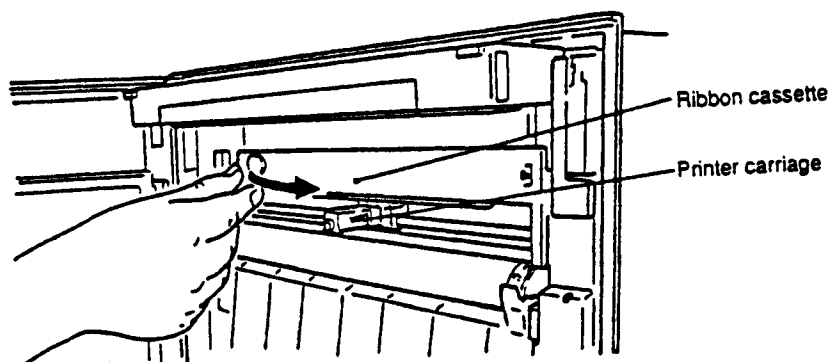

Figure 3-9. Ribbon Cassette Replacement
4. Press the lock tab to the right and use the lower left part of the cassette as a handle to pull it out of the holder. See Figure 3-9.